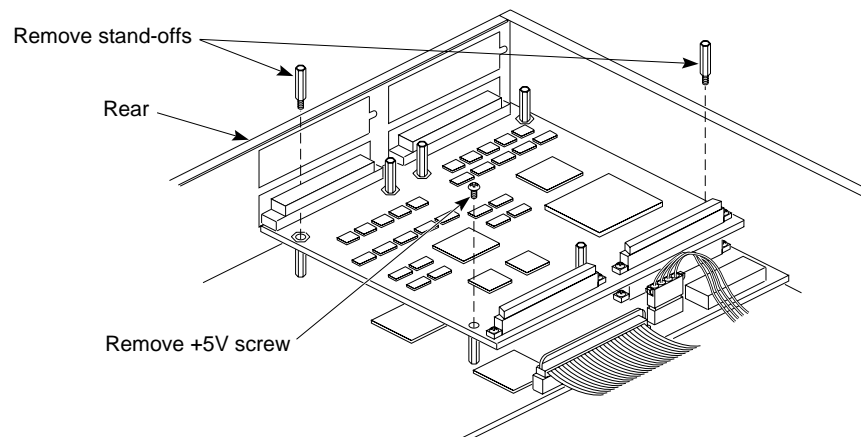

Figure 9-10 Disconnecting the IOPLUS Board From the System Board
Warning: As indicated in Figure 9-10, the standoff between the main system board and the IOPLUS that is closest to the CPU module carries +5 VDC. Do not use this as a grounding attachment.
10. Disconnect the IOPLUS or GIO extender board from the system board, as shown in Figure 9-10. The IOPLUS is shown, but the standoff and screw pattern is identical for the GIO extender.